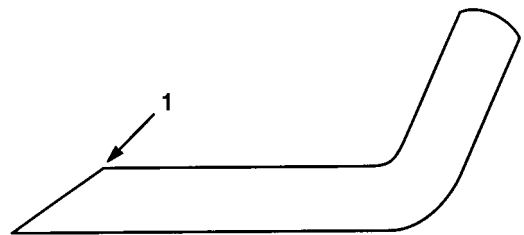

Figure 15
- Examine the cutting edges of all blades. Sharpen the cutting edges if they are dull or nicked. Sharpen only the top side of the cutting edge and maintain the original cutting angle to assure sharpness (Fig. 15). The blade will remain balanced if same amount of metal is removed from both cutting edges.